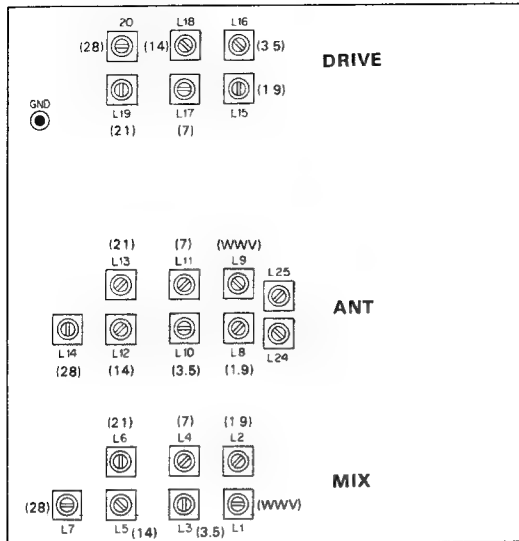
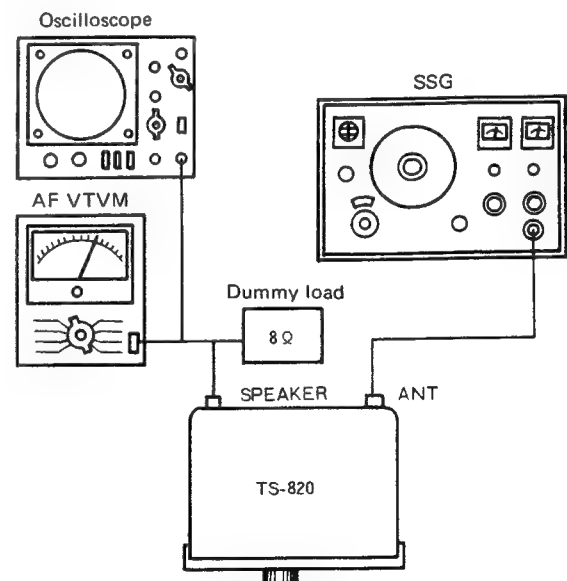

Fig. 23 Coil pack unit
Fig. 26 Adjustment of IF trap coil
Apply SSG output (or marker signal) at 60 dB to the antenna terminal and adjust the coil pack unit (X44-1140-00) in the following procedure of bands for maximum AF output (S meter reading) and maximum sensitivity. Reduce the SSG output suitably as the sensitivity increases (refer to **Table 1**, **Fig. 23**).
- Make connection as shown in Fig. 26, and adjust receiving sensitivity at maximum. Then, while applying a signal of 8830 kHz at approx. 100 dB from SSG, adjust L24 and L25 in the coil pack unit (X44-1140-00) alternately and repeat the same procedure two or three times. Until S meter reading becomes minimum. When S meter pointer does not deflect, make adjustment until AF output becomes minimum (refer to Fig. 23 "Coil pack unit").